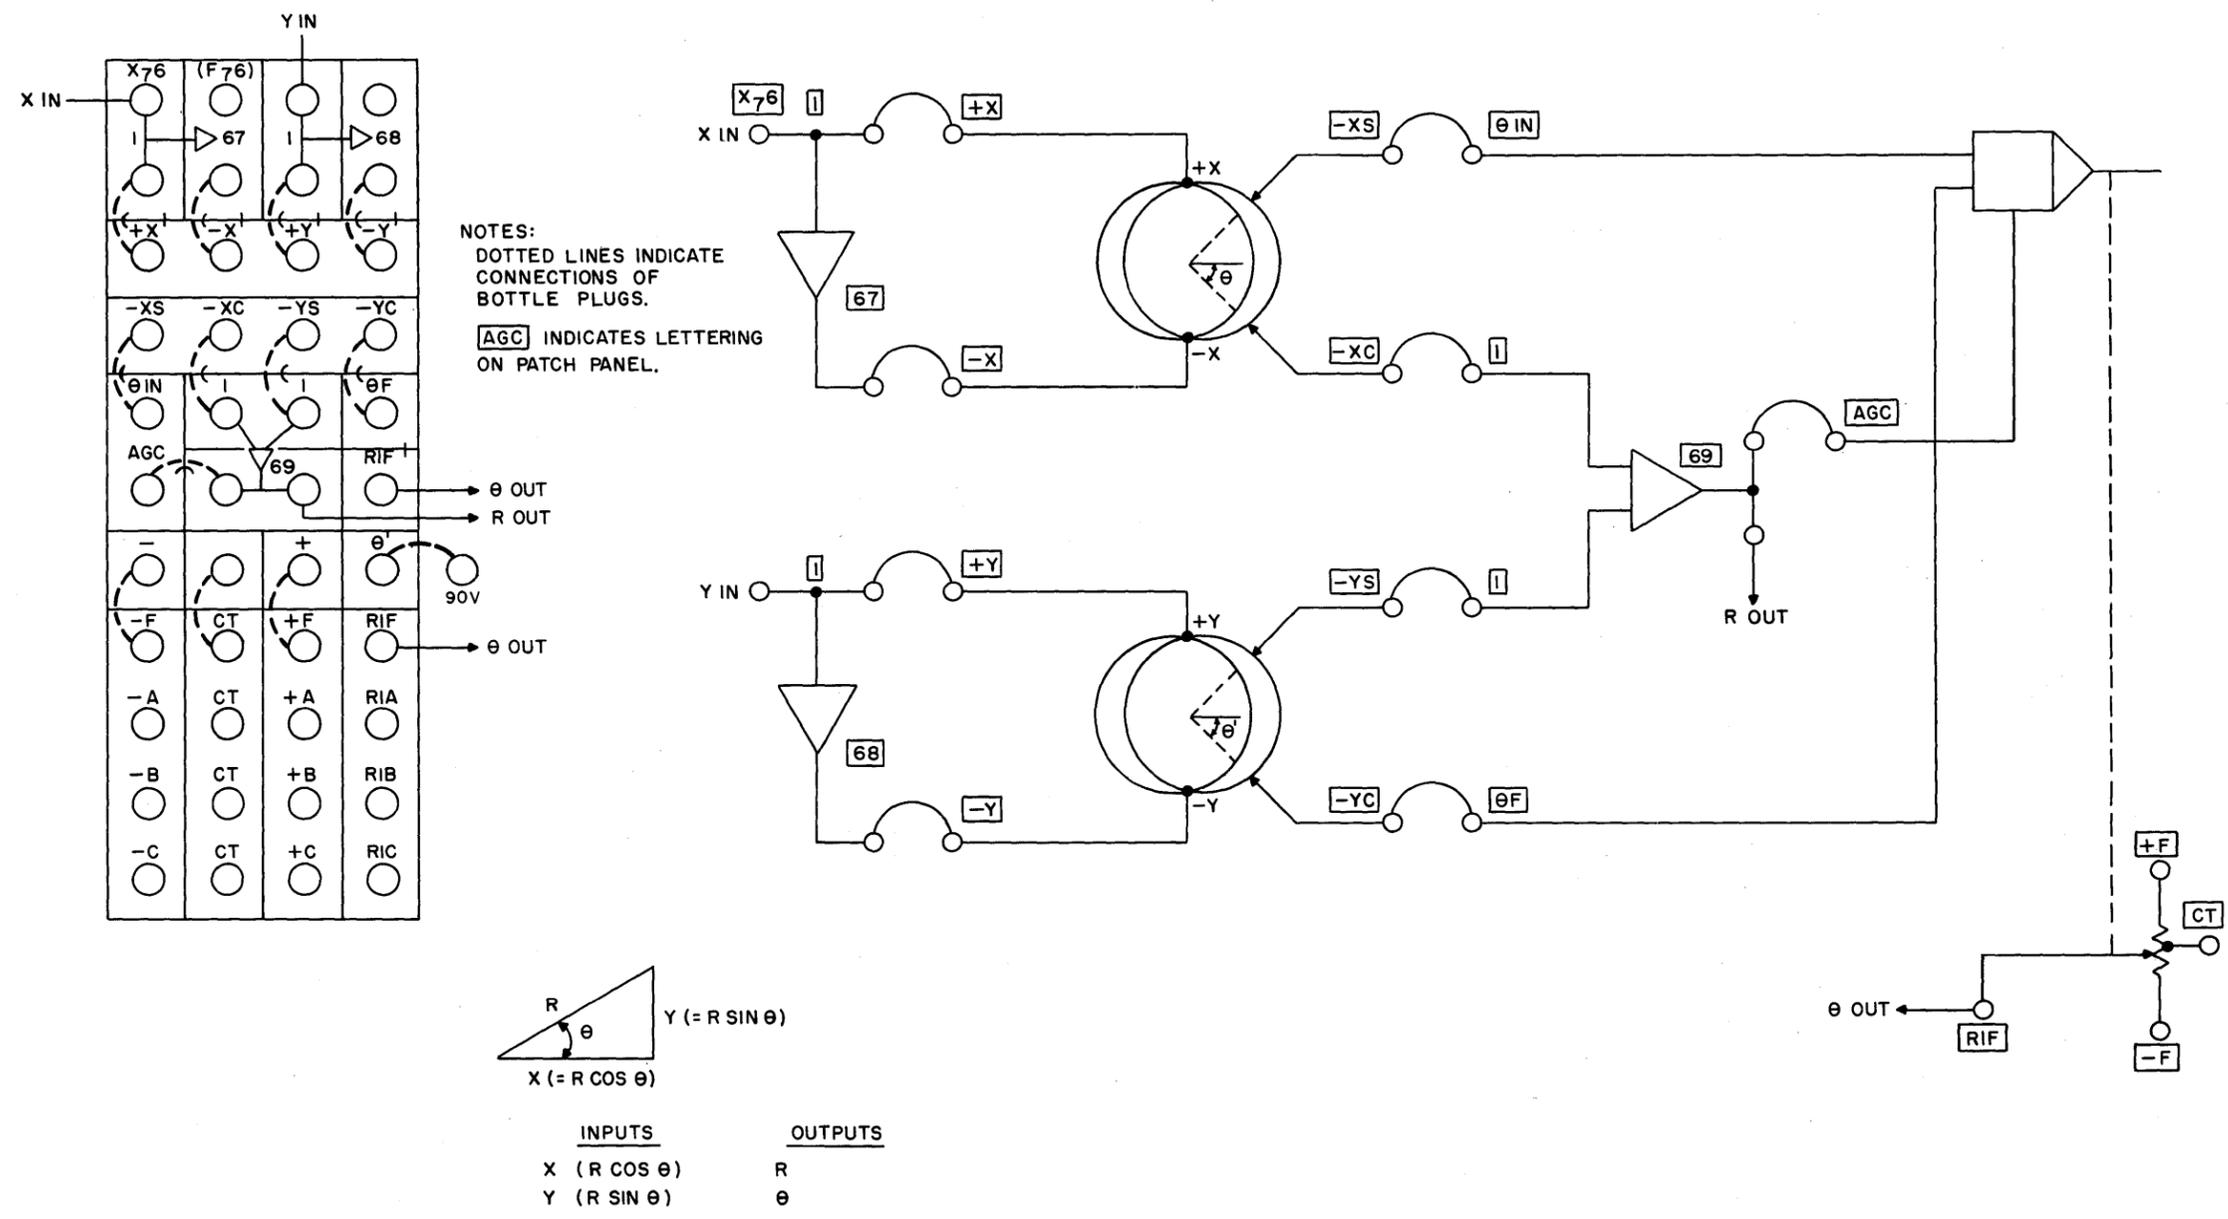

Figure 17. Resolver Patching,
(6) *Resolvers.* Figure 16 shows the patch panel arrangement and schematic drawing for rectangular conversion; figure 17 gives the same information for polar conversion. In the patch panel small white lines are used to indicate bottle plug connections. The curved lines are to be followed when patching for polar conversions and the straight lines for rectangular conversions.